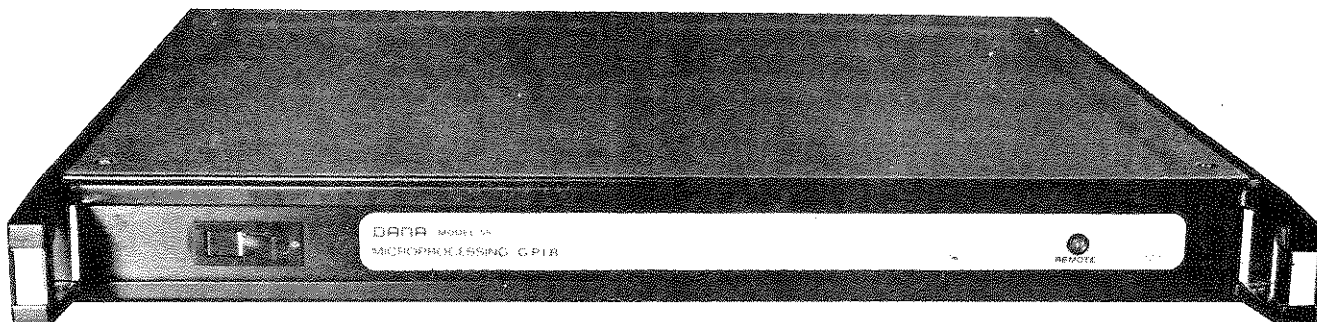

*Figure 2.17 - Jumper Location*
2.111 When an option is added or removed from the instrument, a jumper corresponding to the option is removed or added to allow proper operation of the NO circuitry. The two jumpers (W1 Ohms and W2 AC) are located on the display board, shown partially in figure 2.17. When an option is added, the corresponding jumper is added; conversely, when an accessory is removed, the jumper is removed.